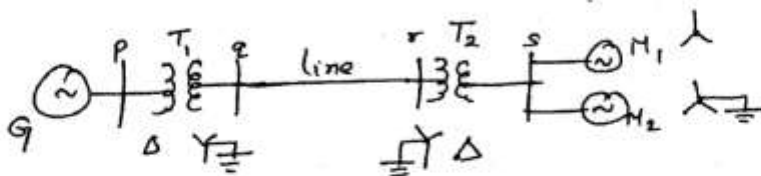

Fig. 14 (a)
- (b) With a help of a detailed flowchart, explain how a symmetrical fault can be analysed using Z_{bus} . (16)
14. (a) A single line diagram of a power network is shown in Fig. 14 (a).